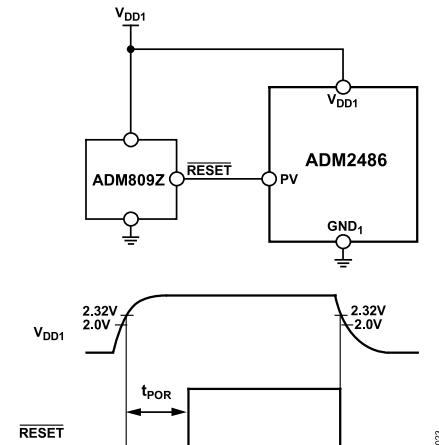

Figure 30. Driving PV with ADM809Z
To avoid chatter on the A and B outputs caused by slow power-up and power-down transients on V_{DD1} ($>100 \mu$ s/V), the device features a power_valid (PV) digital input. This pin should be driven low until V_{DD1} exceeds 2.0 V. When V_{DD1} is greater than 2.0 V, this pin should be driven high. Conversely, upon power-down, PV should be driven low before V_{DD1} reaches 2.0 V (see Figure 30).